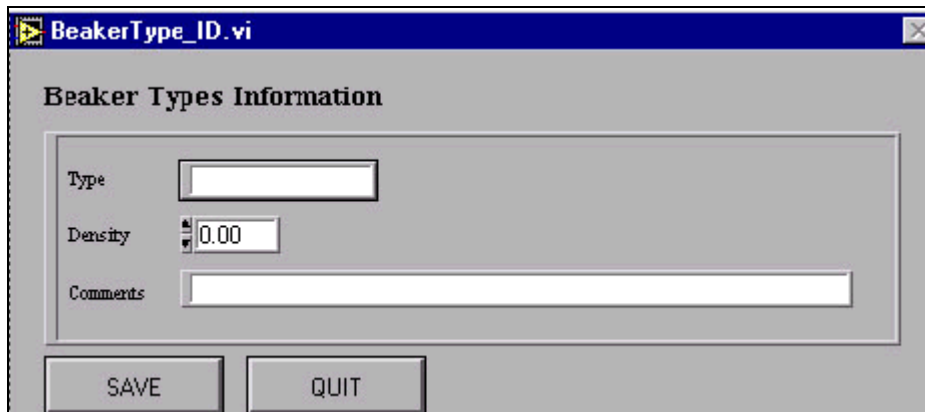

Figure 9. “Beaker ID” window.
| Figure 9. Login for central database. | 7 |
- Add a new beaker by clicking on the **New Beaker** button. This opens the “Beaker ID” window (see Figure 9). Type information into the entry blanks or use the up and down arrows to set the information. Click **Save** before quitting.